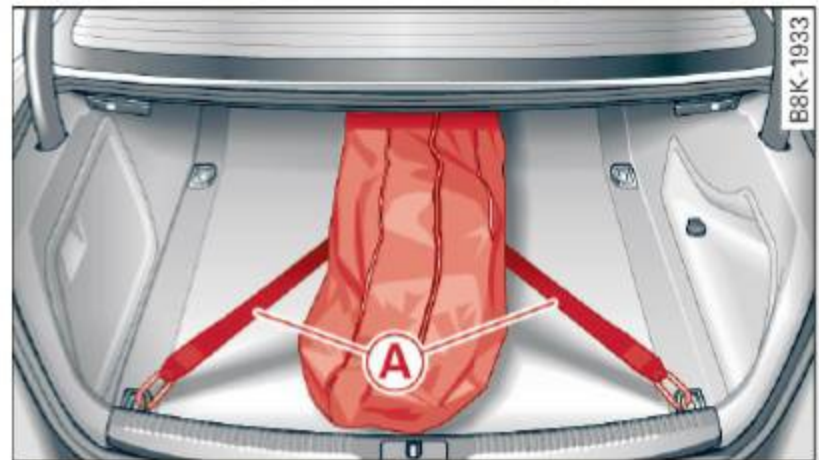
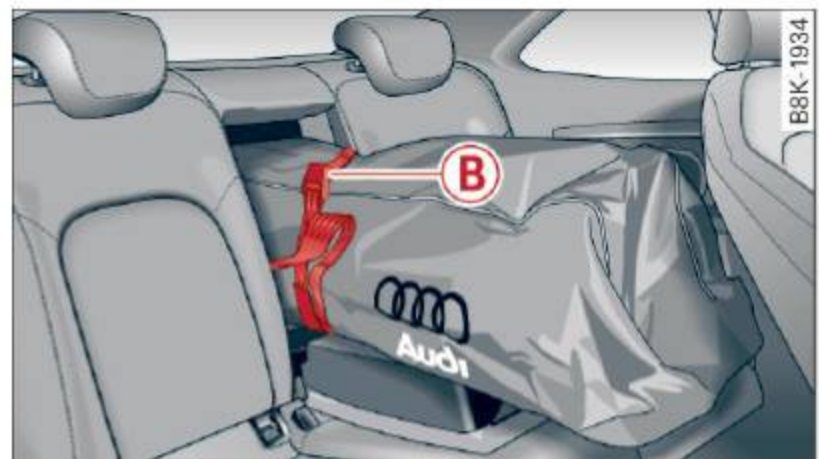

Fig. 69 Luggage compartment: Securing the ski sack
Fig. 70 Rear bench seat: securing the ski sack
There are two straps with hooks on the bottom side of the ski sack ⇒ fig. 69 **A**. There is also a securing strap **B** ⇒ fig. 70 on the sack.
- ▶ To secure the ski sack in the luggage compartment, hang the hooks in the rear tie-downs ⇒ fig. 69.
- ▶ Tighten the strap on the ski sack to prevent the objects in the sack from sliding ⇒ fig. 70.
- Sharp edges on the load must be covered for protection. Always fasten the belt tightly around the sack and its contents ⇒ *fig. 70*.